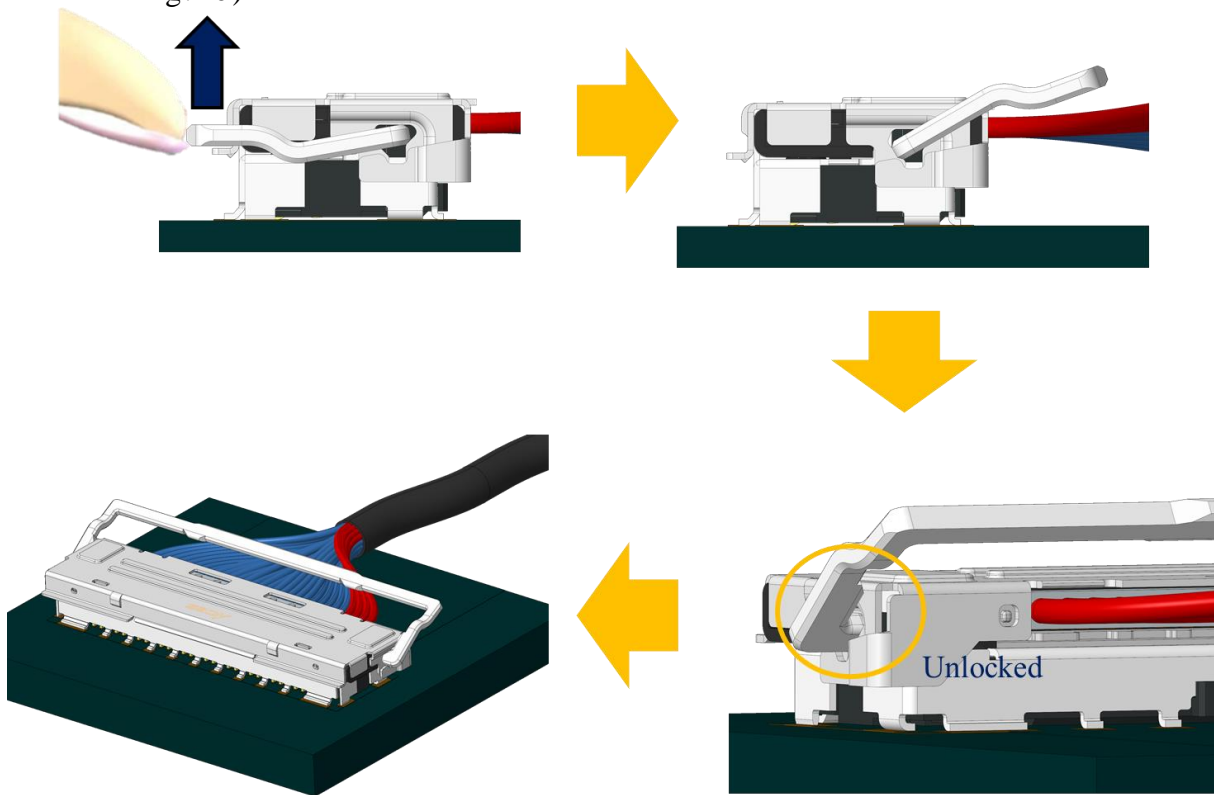

Fig.9
① Lift a lock cover finger hook outward on one end and repeat it again on opposite side to release lock cover. Make sure that the inner lock part is completely released. (See Fig.9)